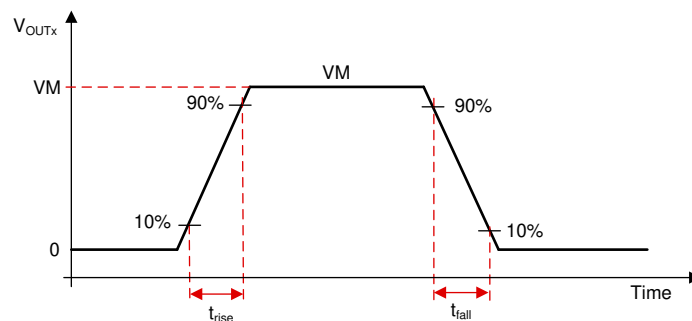

Figure 47. Slew Rate Timings
The slew rate of each half-bridge can be adjusted by HBX_SR bits in Slew Rate control register (SR_CTRL_1 and SR_CTRL_2). Each half-bridge can be selected to a slew rate of 0.6-V/ μ s or 2.5-V/ μ s. The slew rate is calculated by the rise-time and fall-time of the voltage on OUTx pin as shown in Figure 47. The slew rate (SR) is calculate as shown in